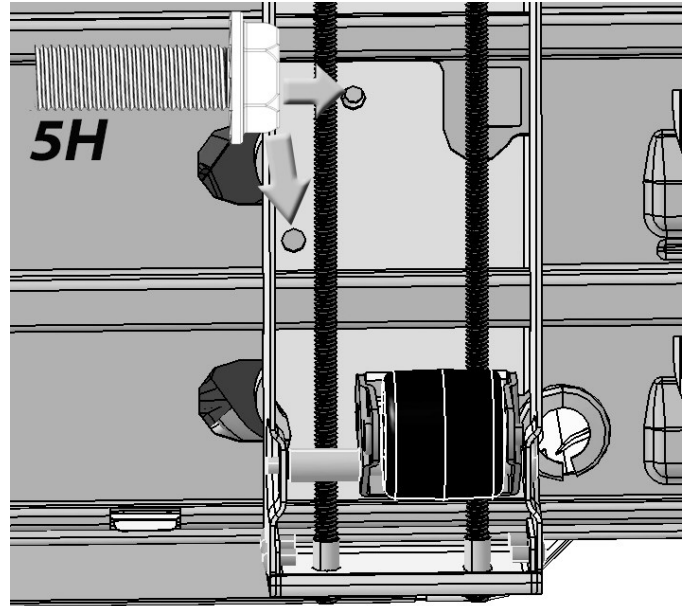

Figure 6
- c. Using a 5H bolt and a power drill, fasten the bottom of the Leveler Assembly with a 3/8" Hex drill bit in whichever hole overlaps the screw hole (Figure 6).